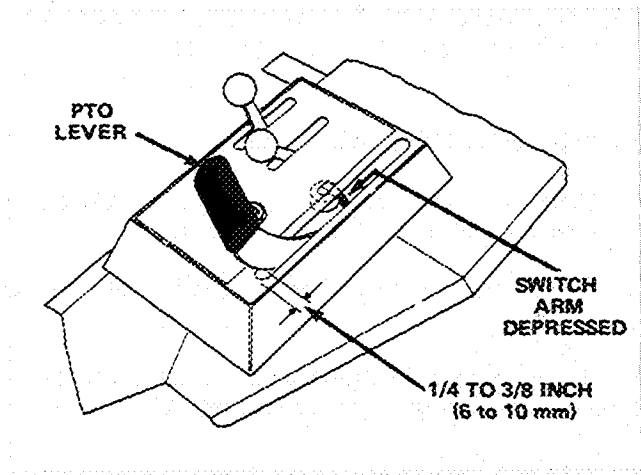

Figure 39
1. Visually check PTO lever to be sure it deflects switch arm when lever is in the disengaged position (Fig. 39). Back surface of PTO lever must be within 1/4 to 3/8 in. (6 mm to 10 mm) from end of the slot (Fig. 39). If PTO lever does not deflect switch arm, proceed to step 2.
2. Pull high tension wire off spark plugs. To adjust the PTO lever, remove the seat cover. Loosen jam nut from PTO engaging yoke (Fig. 40). Loosen adjusting screw until PTO lever is within 1/4 - 3/8 in. (6-10 mm) from end of the slot, when lever is in the disengage position (Fig. 39). This will deflect the switch arm. Tighten jam nut against yoke to lock the adjustment in place (Fig. 40). Move PTO lever to disengage position and rotate locknut at top of spring until the dimension of spring, between the top and bottom flatwasher, is 3-9/16 in. (9.0 cm) (Fig. 40). Repeat step 1.